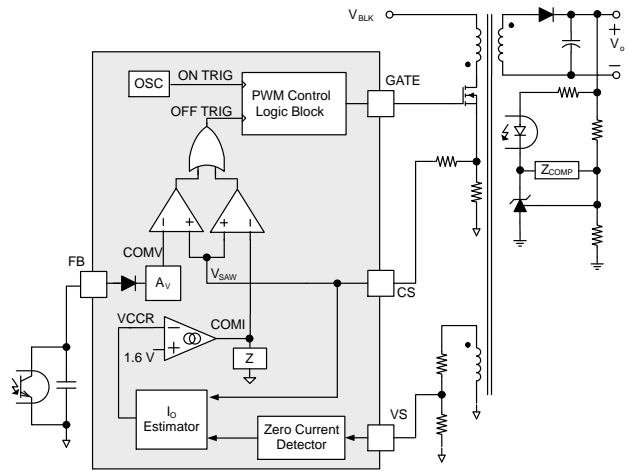

Figure 21. Simplified PWM Control Circuit
Figure 21 shows the simplified CV PWM control circuit of FAN6080HMX. In constant voltage (CV) regulation, the output voltage is sensed via a voltage divider and compared with the internal reference of shunt-regulator to generate a compensation signal. The compensation signal is transferred to the primary side through an opto-coupler and fed to FB pin. The FB signal is level shifted, and scaled down by an internal attenuator AV to generate the COMV signal. The COMV signal is then applied to the PWM comparator to determine the PWM duty cycle, as shown in Figure 21.
In constant current (CC) regulation, the output current estimator calculates the output current using the transformer primary side current and the rectifier diode conduction time which is sensed on the VS pin. By comparing the estimated output current with an internal reference signal, COMI signal is generated, which determines the PWM duty cycle, as shown in Figure 21.
Two internal comparators are used to compare the COMV and COMI signals with sawtooth waveform (V_{SAW}) in order to determine the PWM duty cycle. As shown in Figure 21, the outputs of the two comparators are combined with an OR gate to determine the MOSFET turn-off instant. The lower between the COMV and COMI signals determines the PWM duty cycle. In CV mode, COMV determines the PWM duty cycle while COMI signal is saturated to high level. Whereas, in CC mode, COMI determines the PWM duty cycle while COMV signal is saturated to high level.